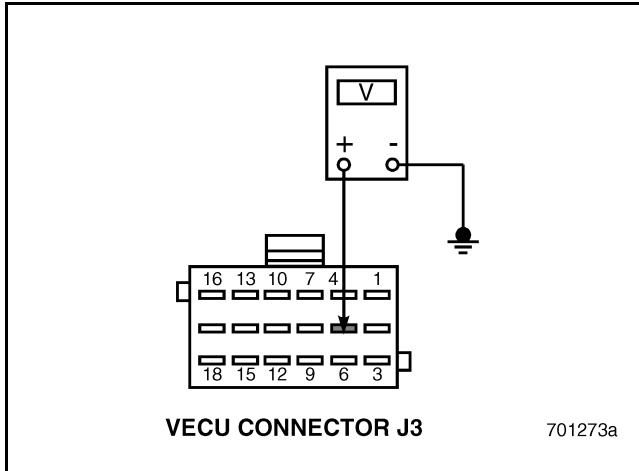

Figure 568
2. Disconnect the Throttle Position (TP) Sensor.
5. Measure the voltage between VECU harness connector J3 pin 5 and a good ground. (see Figure 568).